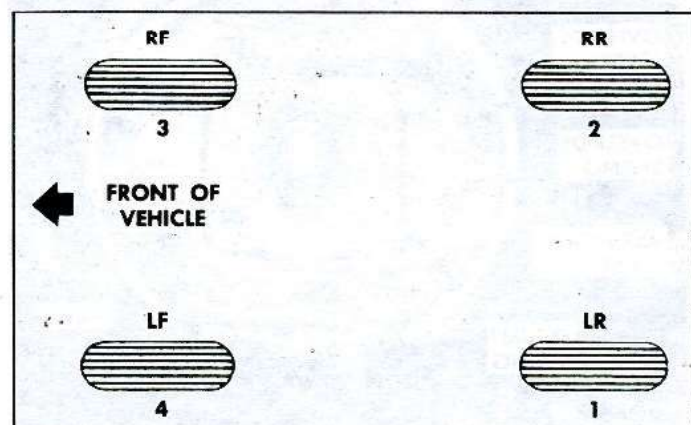

Fig. 4—Proper Bleeding Sequence
The hydraulic brake system must be bled whenever any line has been disconnected or air has in some way entered the system. The system must be absolutely free of air at all times. Bleeding should be done on the longest line first and the proper sequence to follow is left rear, right rear, right front and left front (fig. 4). Bleeding of brake line may be accomplished by one of two methods: either pressure or manual.
8. Repeat Steps 3 through 7 at the remaining wheel cylinders in the proper bleeding sequence. (See Figure 4).
7. Repeat operations 2 thru 6 at each wheel in the proper sequence (fig. 4).